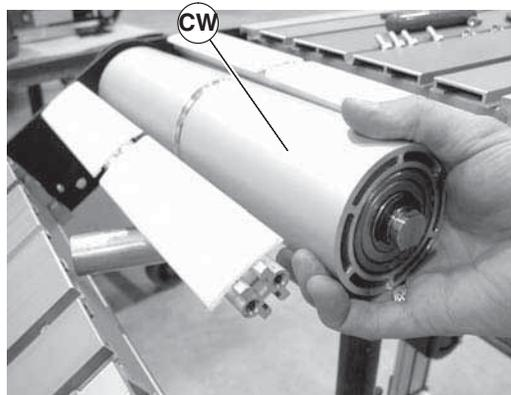

Figure 74
4. Slide the idler pulley assembly (Figure 74, item CW) out of the knuckle plate on the opposite side.